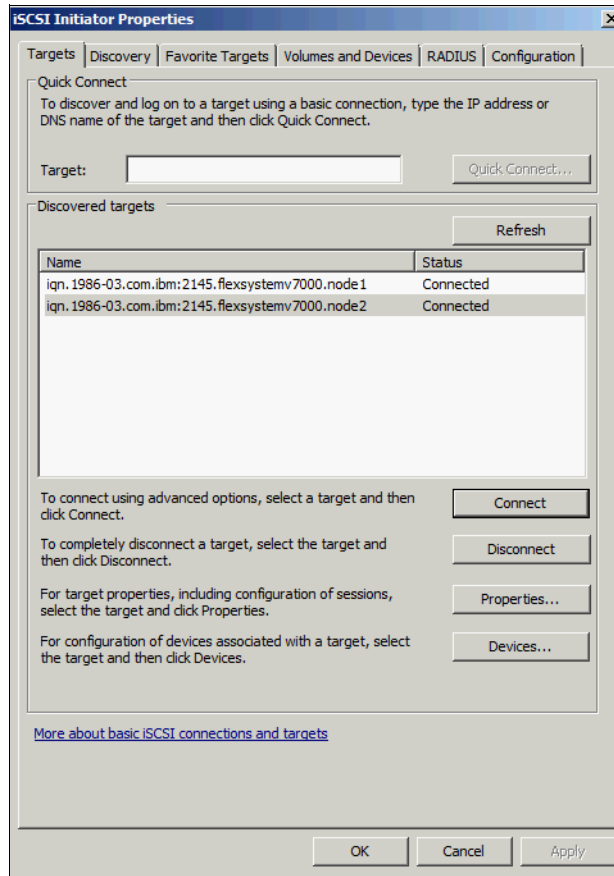

Figure 12-23 Second target port connected
8. Select the **Enable Multipath** check box and click **OK**. The second port now appears as Connected (Figure 12-23).